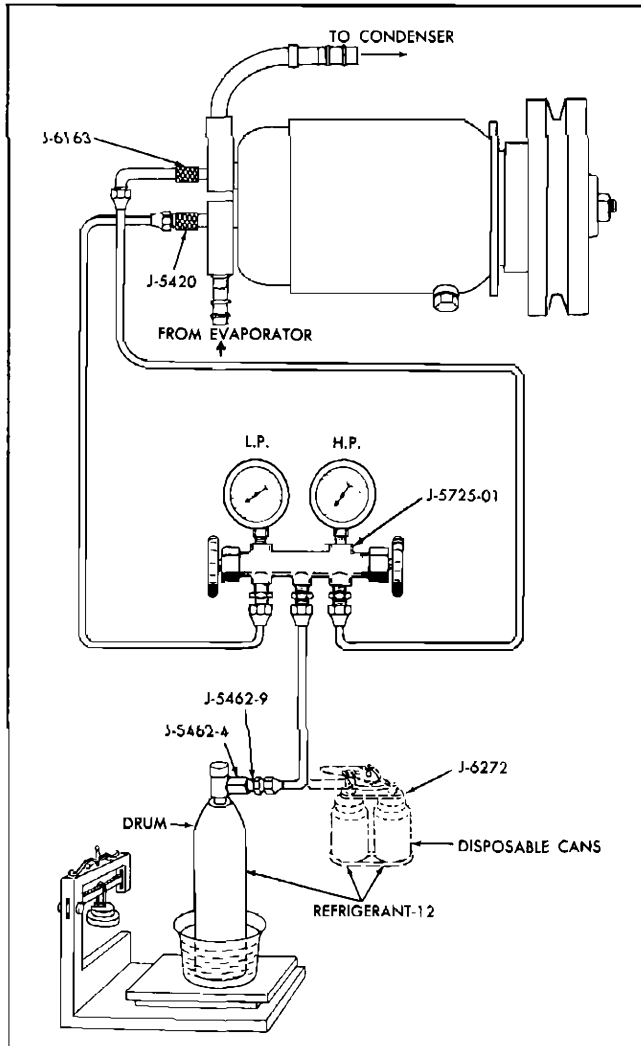

Fig. 7-40 Schematic Showing Connections and Tools for Charging Refrigeration System
**NOTE:** It may be necessary to use reducer J-5462-4 with sealing washer J-5462-3 and fitting J-5462-9 to attach flexible line to refrigerant drum. (See Fig. 7-40).
3. Place refrigerant drum (in pail of water) on scales (bathroom or commercial, preferably commercial) as shown in Fig. 7-40.